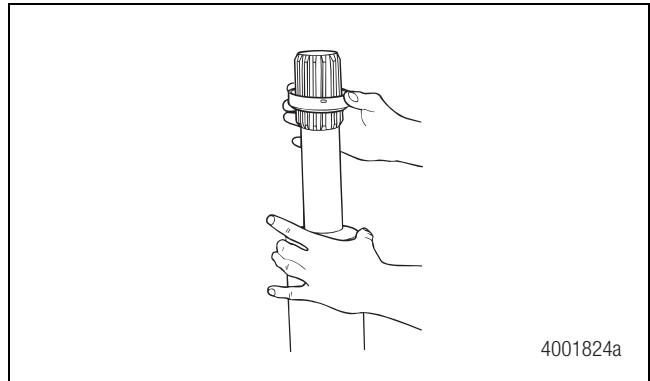

**Figure 3.6**
4. Pull the slip yoke and slip shaft sections apart. Figure 3.6.